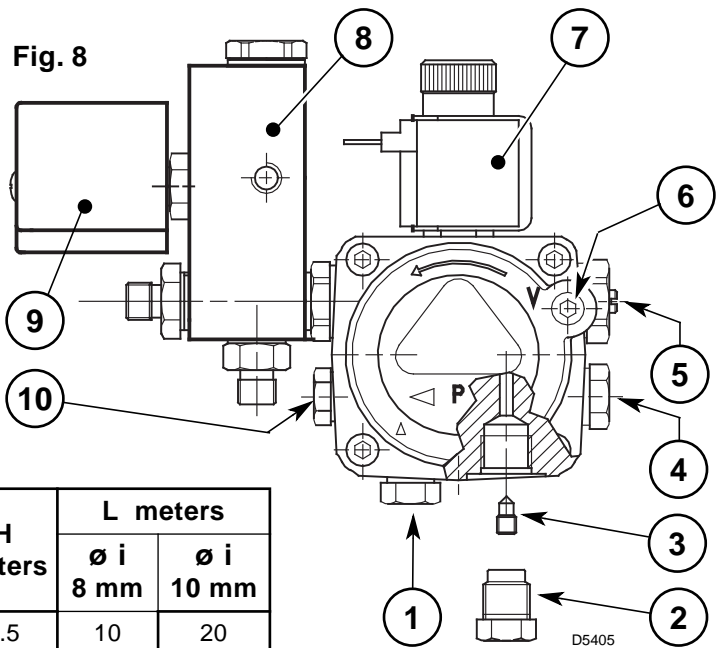

Fig. 8
- The pump is designed to allow working with two pipes. In order to obtain one pipe working it is necessary to unscrew the return nut (2), remove the by-pass screw (3) and then screw again the nut (2), (see fig. 8).
On the system in fig. 7 it is sufficient to loosen the suction gauge connection (6, fig. 8) and wait until oil flows out.